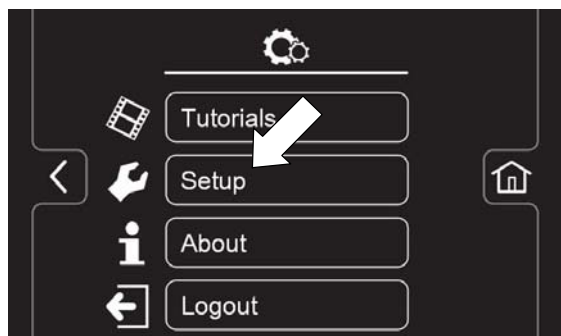

FIG. 117
3.  Press the Setup button to access the Setup screen (Figure 117).